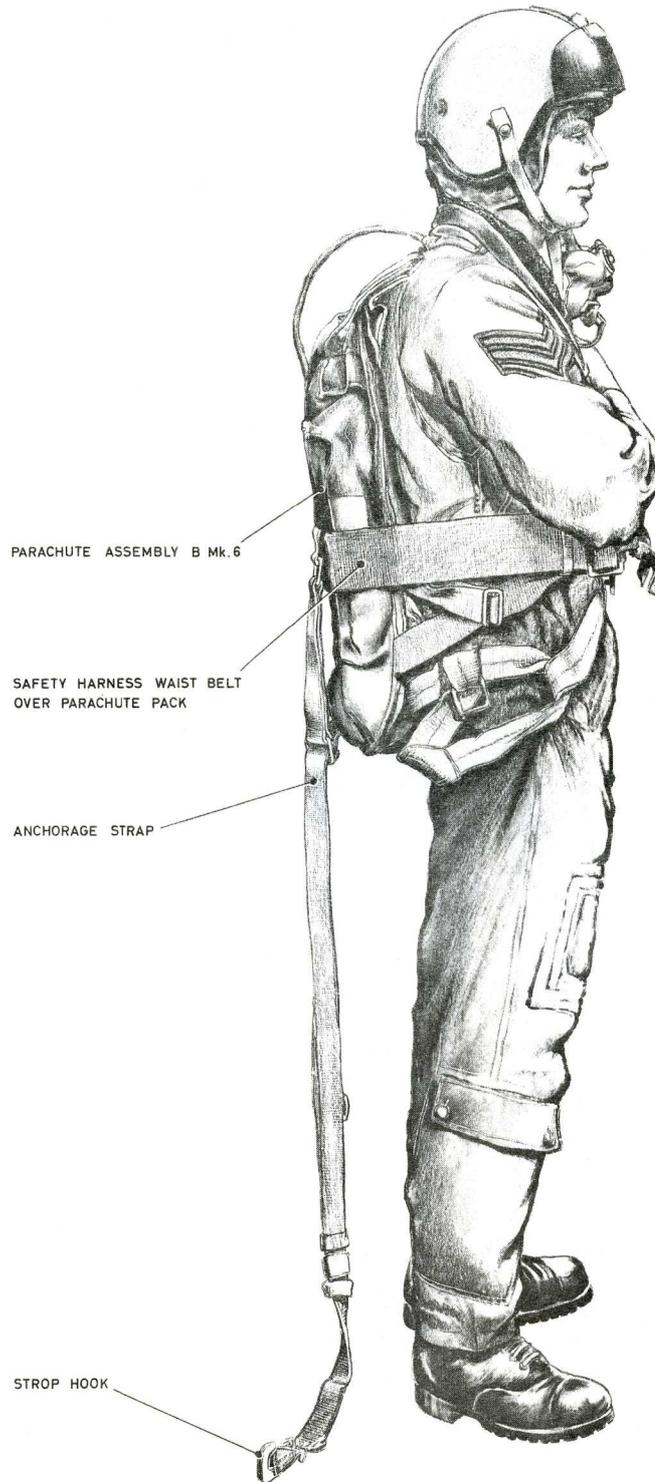

Fig. 3. Despatcher equipped (1)
5. The despatcher's A.E.A. (*fig. 3 and 4*) is fitted in one stage only since the B Mk. 6 parachute assembly is worn at all times. To fit the despatcher's A.E.A. proceed as follows.--